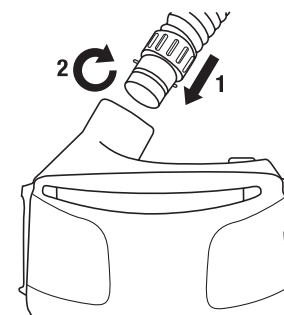

Fig. 8
1. Insert the end of the breathing tube with the bayonet fitting (two small prongs) into the parallel slots in the air outlet of the motor/blower (Fig. 8).